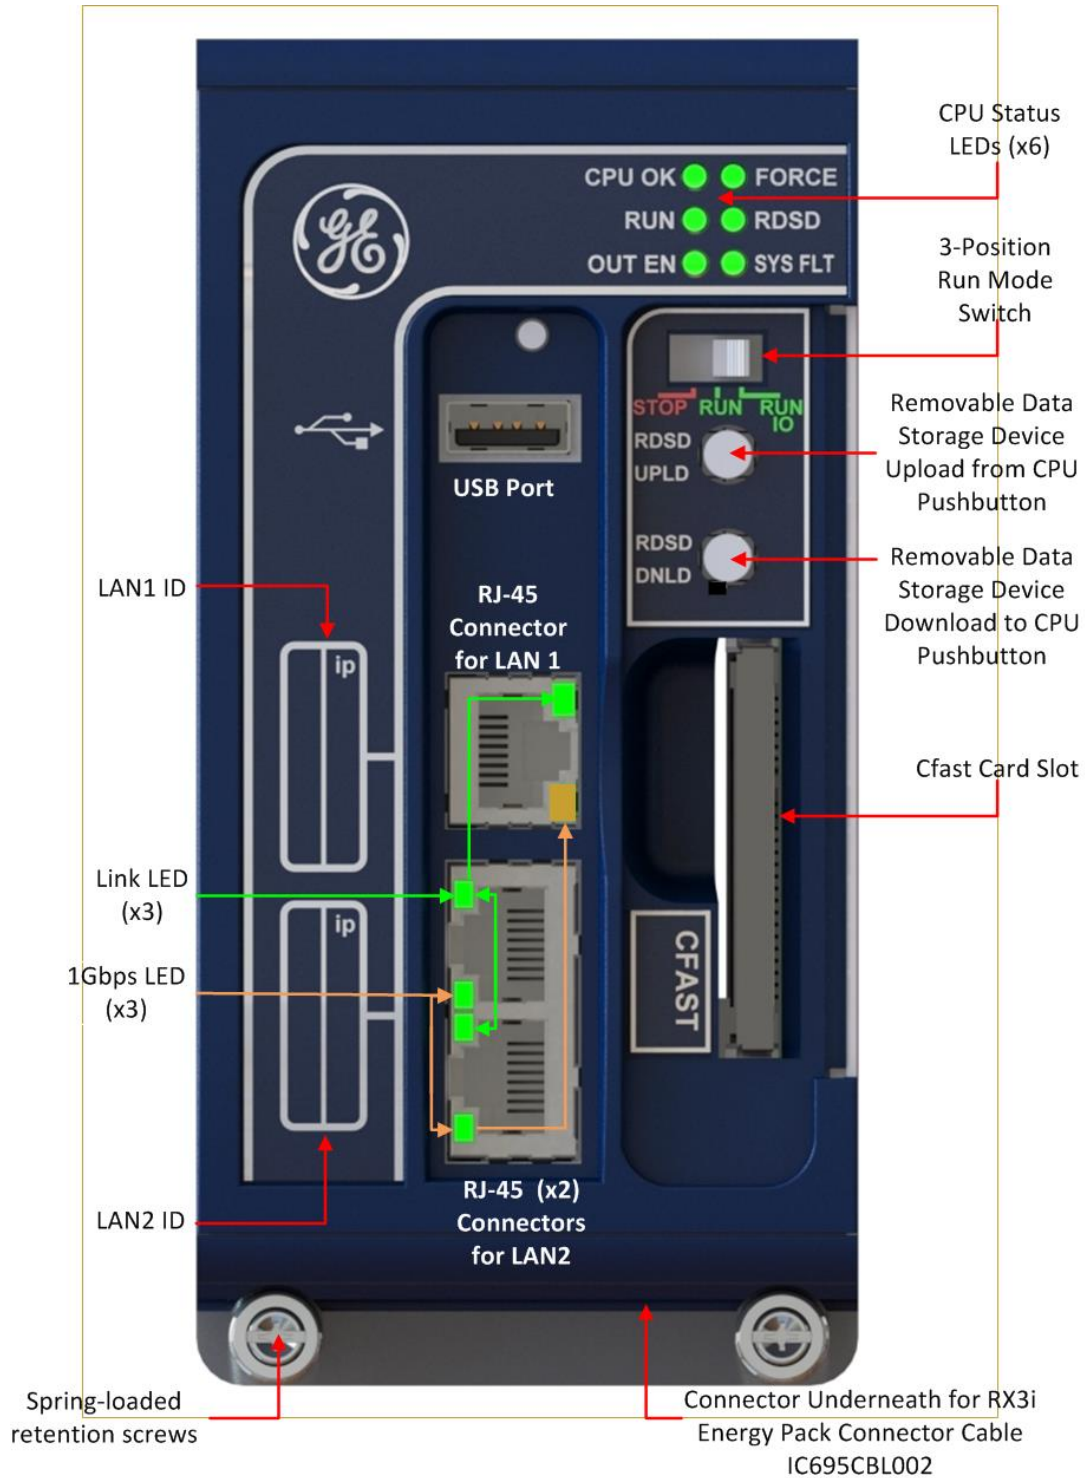

Figure 1: CPE330 Front View & Features
- LAN1 connects to the uppermost RJ-45 connector (Figure 1). It is not switched.
Space is provided beside each connector (Figure 1) to record the IP address used on each LAN.